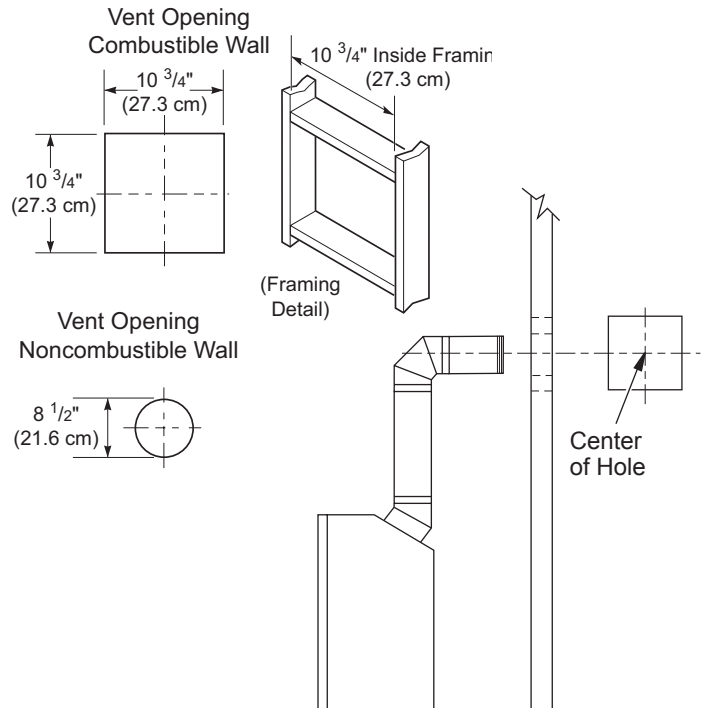
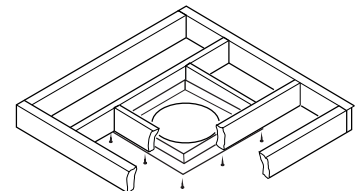

Figure 9 - Vent Opening Requirements
Figure 20 - Installing Firestop
- Carefully determine the location where the vent pipe assembly will penetrate the outside wall. The center of the hole should line up with the center-line of the horizontal vent pipe. Mark the wall for a 10 3/4" x 10 3/4" square hole. Cut and frame the square hole in the exterior wall where the vent will be terminated. If the wall being penetrated is constructed of noncombustible material, such as masonry block or concrete, a 8 1/2" hole with zero clearance is acceptable (see Figure 9).
1. Cut a 10^{3/4}" square hole in the ceiling using the locating hole as a center point. The opening should be framed to 10^{3/4}" x 10^{3/4}" (27.3 cm x 27.3 cm) inside dimensions, as shown in Figure 9 on page 8 using framing lumber the same size as the ceiling joists. If the area above the ceiling is an insulated ceiling or an attic space, nail firestop from the top side. This prevents loose insulation from falling into the required clearance space. If the area above the ceiling is a living space, install firestop below the framed hole. The firestop should be installed with no less than three nails per side (see Figure 20).
3. Cut a hole in the roof using the locating hole as a center point. (Cover any exposed open vent pipes before cutting hole in roof.) The 10^{3/4}" x 10^{3/4}" hole must be measured on the horizontal; actual length may be larger depending on the pitch of the roof. There must be a 1" clearance from the vent pipe to combustible materials. Frame the opening as shown in Figure 9, page 8.